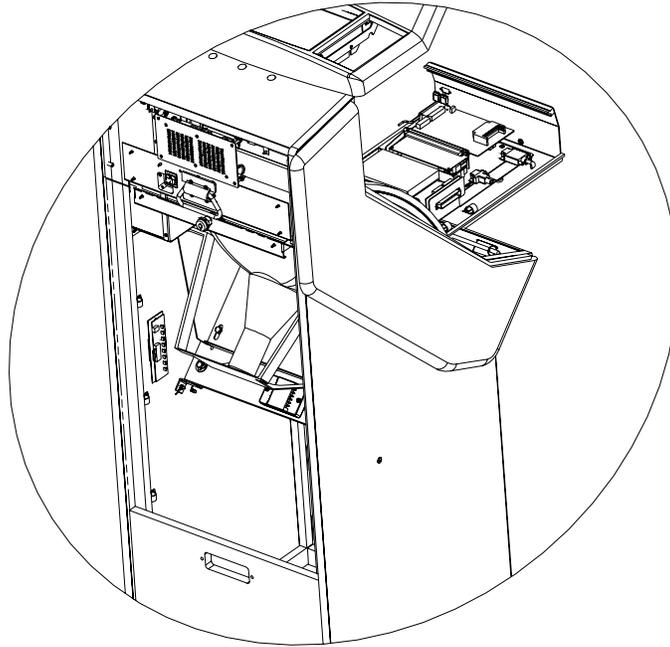

FIGURE 2 – MAXX UPRIGHT - MONITOR ACCESS
4. Remove the front and rear bolts (2 per side) securing the monitor shelf to the cabinet. See Figure 2.
2. Fasten the monitor shelf with the front and rear bolts (2 per side). See Figure 2.